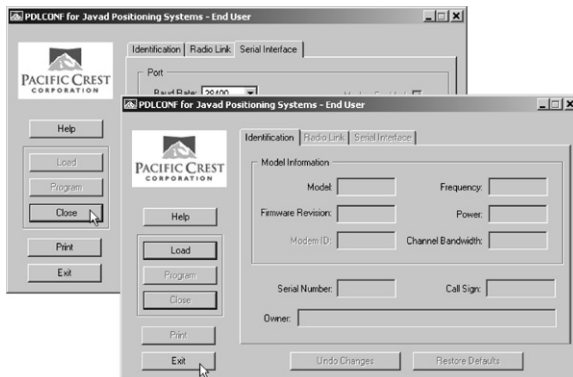

Figure 2-29. Click Close then Exit
13. Click **Close** and then **Exit** to quit the program (Figure 2-29).